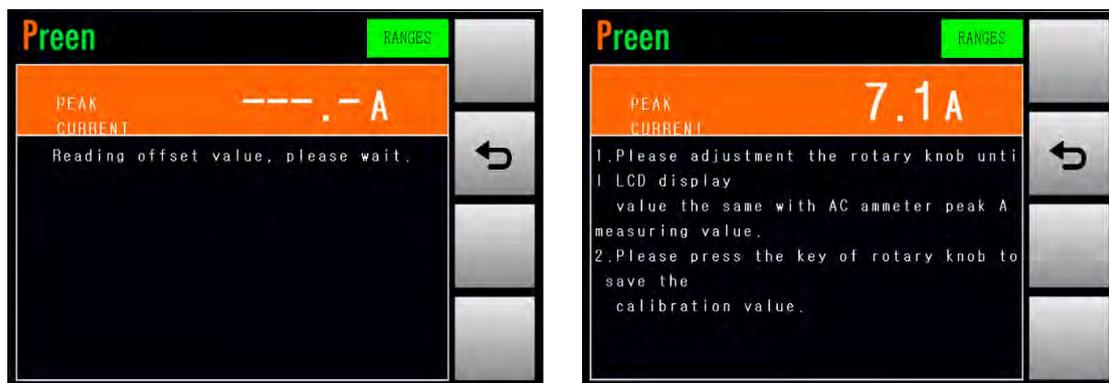

Figure 6.18 Enable the calibration of the peak current
3. Press the output & reset button on the front panel to enable the calibration of the peak current (refer to Figure 6.18), and then the product will start to output the voltage which is closed to 100V.